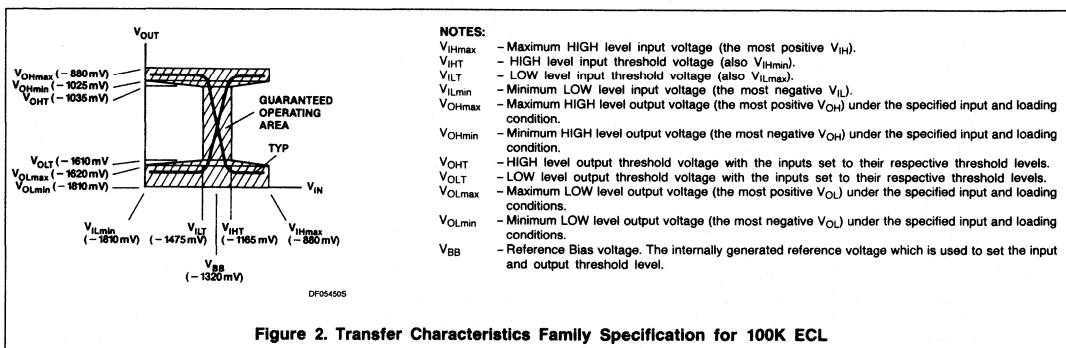

Figure 2. Transfer Characteristics Family Specification for 100K ECL
3. The specified limits shown in the DC Characteristics can be met only after thermal equilibrium has been established. Thermal equilibrium is established by applying power for at least 2 minutes while maintaining transverse air flow of 2.5 meters/s (500 linear feet/min) over the device either mounted in the test socket or on the printed circuit board. Test voltage values are given in the DC Operating Conditions and defined in Figure 2.